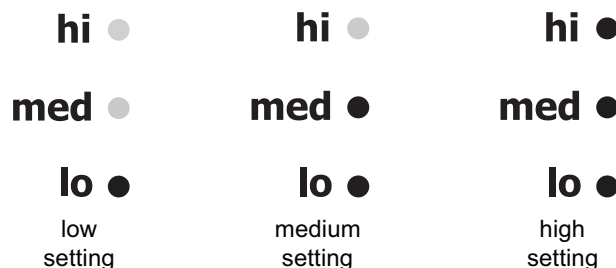

Figure 19: Warming zone settings
3. Press **warming zone** key until desired temperature setting is displayed. (Figure 19)